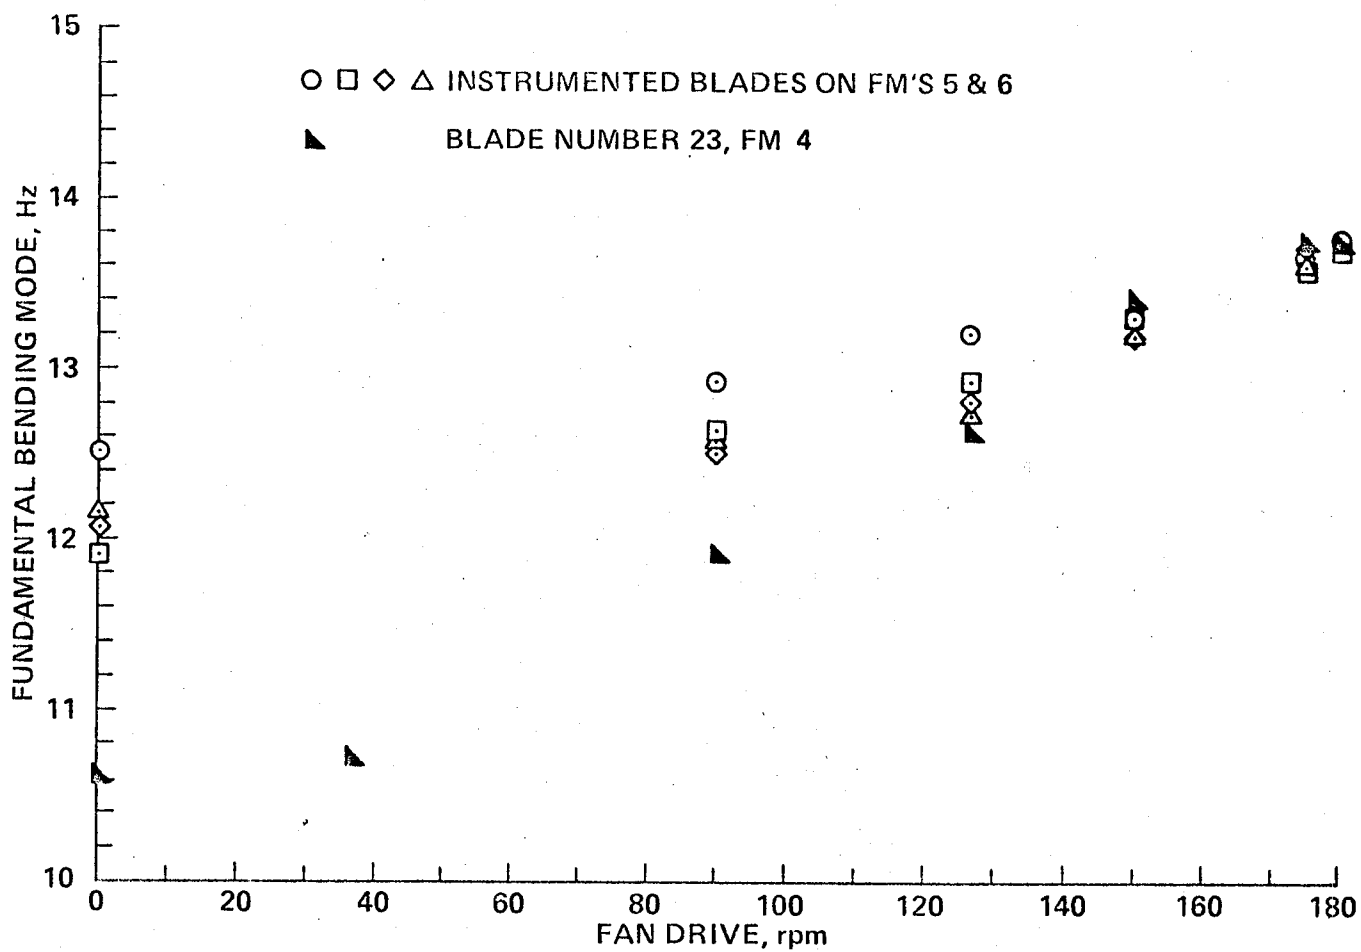

Figure 11.- Blade fundamental rotating bending frequency, flat pitch operation.
7. No blades would experience a four-per-rev resonance with the fundamental bending mode under normal operating conditions of 180 rpm (see fig. 11).